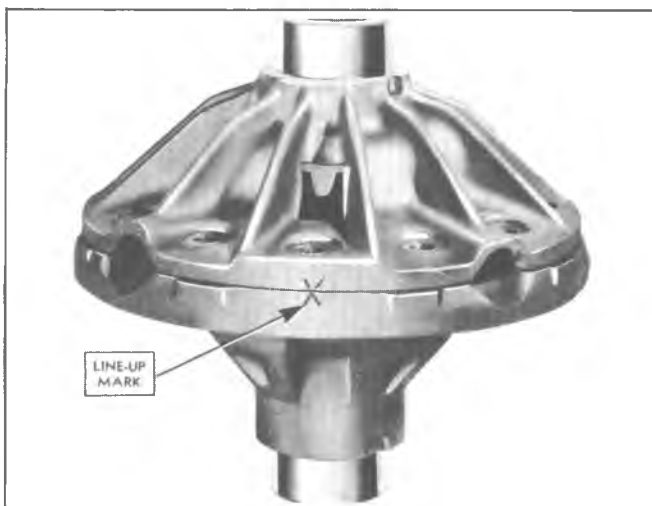

Fig. 6G--Differential Case Line-Up Marks
1. Check differential case to make sure that the two halves are marked so they may be reassembled in same relation. See figure 6G.